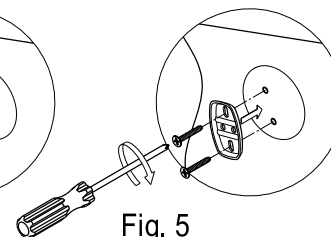

Fig. 5
Step 5. Screw the mounting plate(with the lips facing out) to the wall with the mounting screws (fig 5).